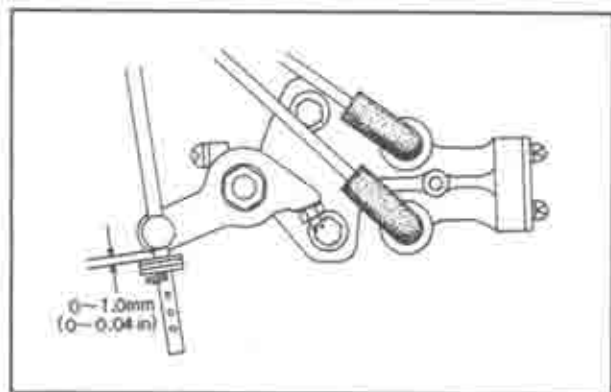

Fig. 2-18 Connecting rod setting
4. Check the clearance between the pump lever and the washer as shown in Fig. 2-18.